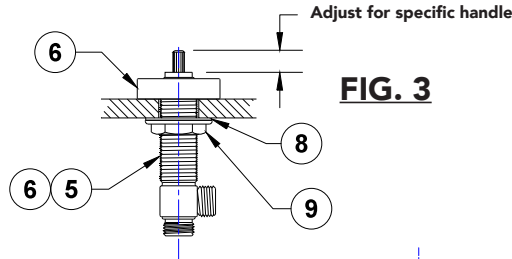

FIG. 3
6. Install hot and cold valve assemblies (**5**)(**6**) from bottom of counter. Install valve escutcheon (**4**) **Fig.3** on valve assemblies. Adjust valve assemblies per **Fig. 3**, tighten nut (**9**) on each valve assembly